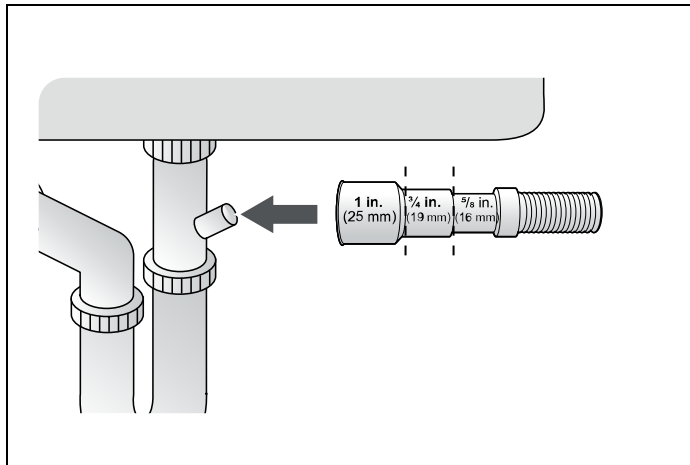

Fig. 18
3) Check the size of the sink drain hose connector. If needed, cut the drain hose so its end fits onto the sink connector (5/8", 3/4", or 1" - as shown in Fig. 18 ). If the end of the drain hose does not fit onto the drain hose connector of the sink, use an adapter purchasable at a plumbing/hardware supply store.